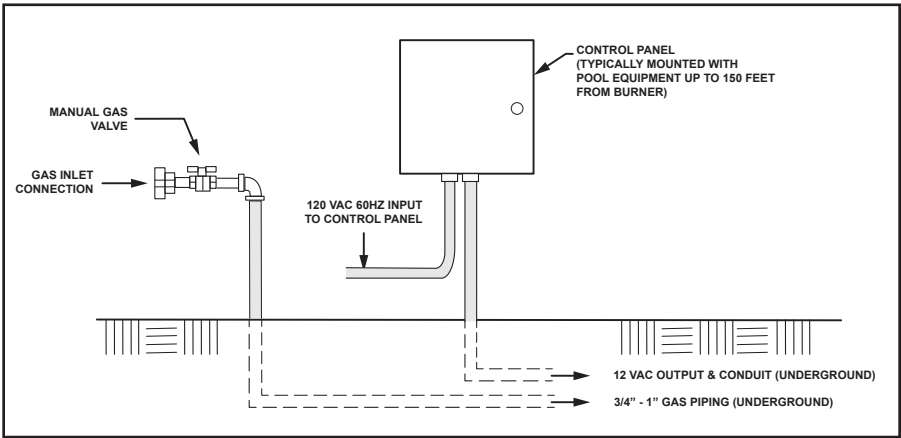
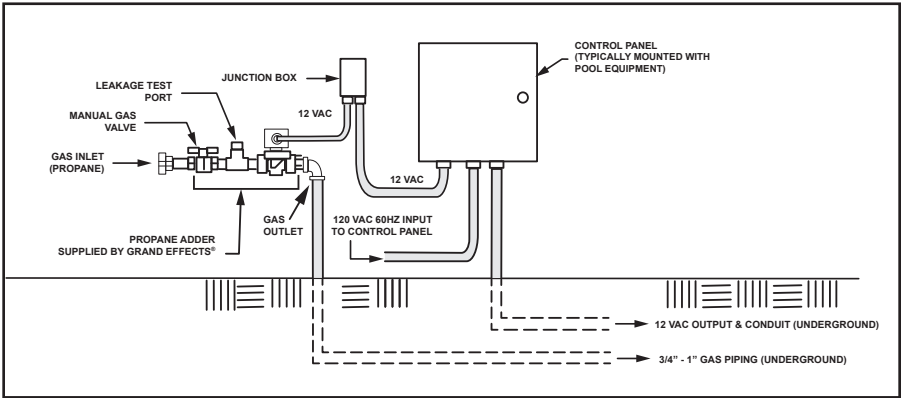
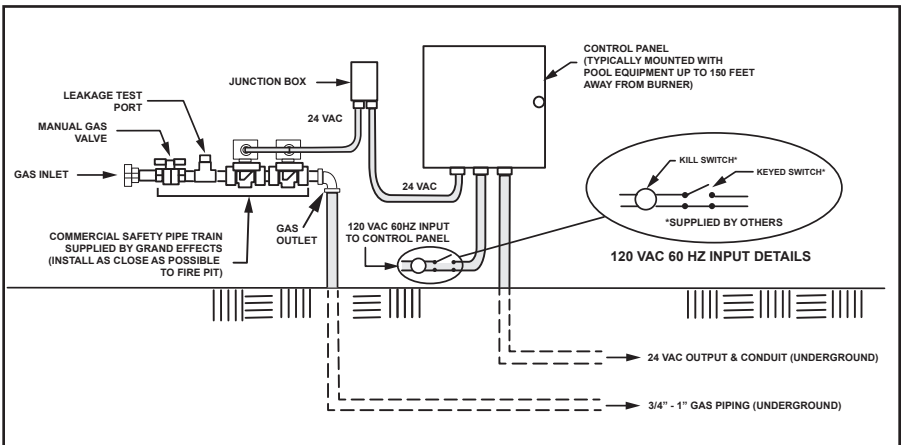

Figure 1. Natural Gas
Figure 2. Propane Gas
Figure 3. Commercial Installation
1. Install the control panel and gas piping as shown in Figure 1: Natural Gas, Figure 2: Propane Gas, or Figure 3: Commercial Installation. Gas lines must be clean and free from any dirt, debris, or contamination.
Note: Propane piping is different than natural gas piping (shown in Figure 1 and Figure 2).
2. The gas piping must be installed underground between the control panel and each burner, as shown in Figure 1.